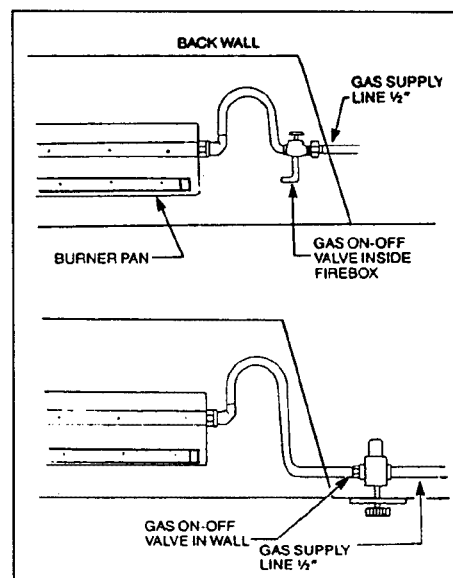

Figure 4. Gas line installation - Masonry Fireplace
- E. **Masonry fireplace.** A 1/2 inch gas supply line must be provided to the firebox. Most installations require drilling an access hole through the masonry wall. The supply line should be secured and sealed by mortar within the access hole. The supply line should also have an on-off valve either in the wall or inside the fireplace. (See Figure 4.)